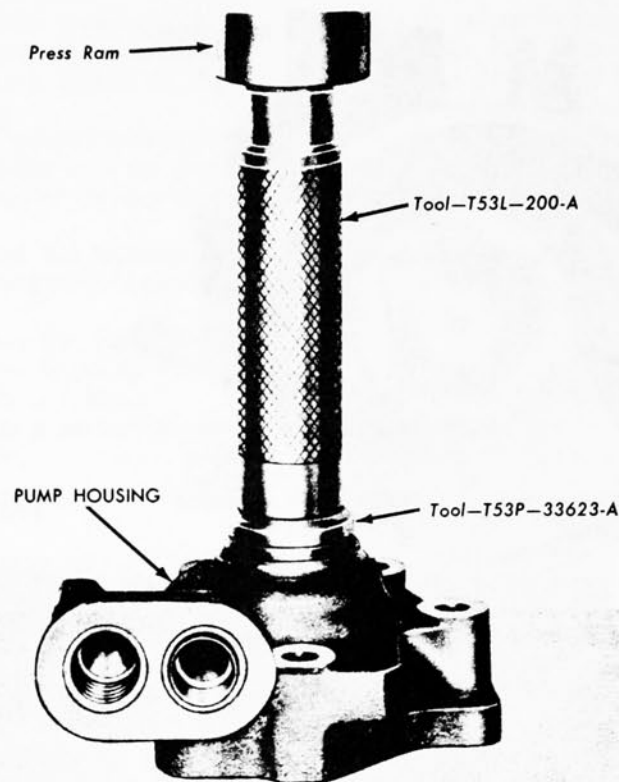

FIG. 9—Carrier Shaft Seal Installation
3. Press the seal into the housing (Fig. 9) until it seats firmly and evenly against the shoulder in the bore.